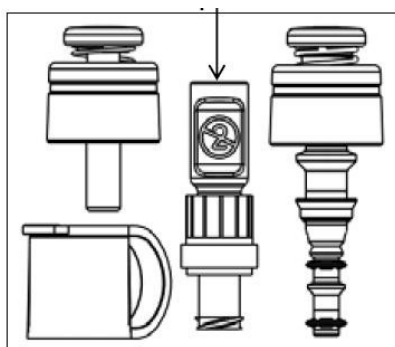

Figure 3
- 13) If using the 4 piece kit (See Figure 3), attach the Torrent® irrigation scope connector.